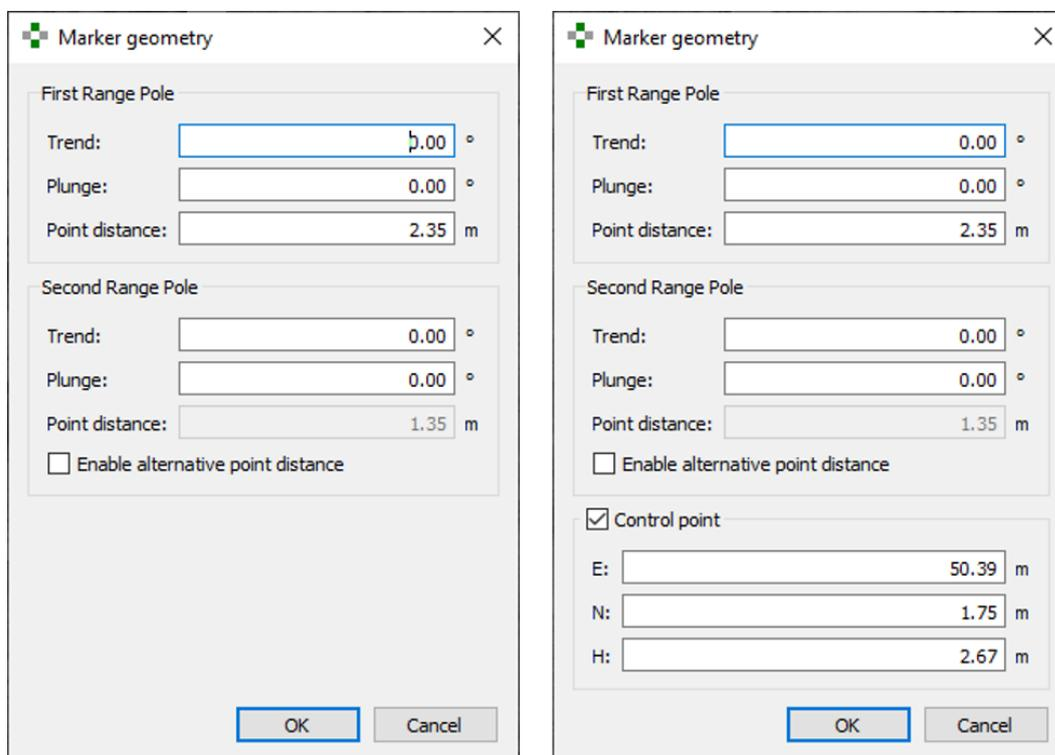

Figure 15: Dialog for the marker geometry in the Two Range Poles Mode without (left) and optionally with a marked Surveyed Control Point (right).
7. A dialog window appears (Figure 15) after clicking the “Save” button. Check the preset target distance (point distance) in the appearing dialog (see step 11 in Chapter 6.1). In addition, the software requires the input of the trend and plunge of both *Range Poles* and the target distance. If two different target distances are used, the check box “Enable alternative point distance” has to be enabled. The fields for the *Control Point* co-ordinates are only active if a *Control Point* has been defined in the pictures.